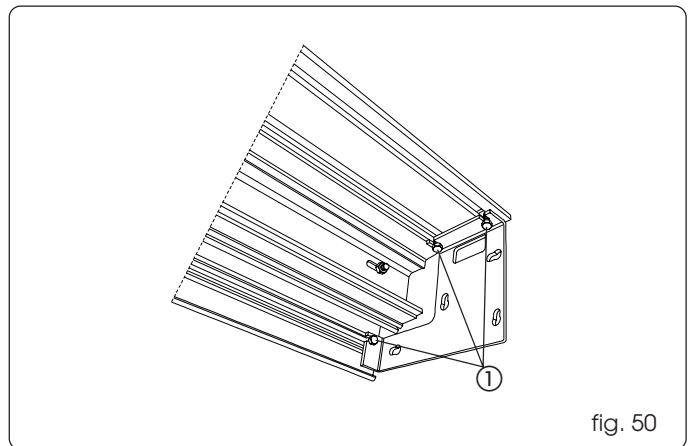

fig. 50
Assemble the side fixing brackets, using the stay screws (fig. 50 ref. ①).